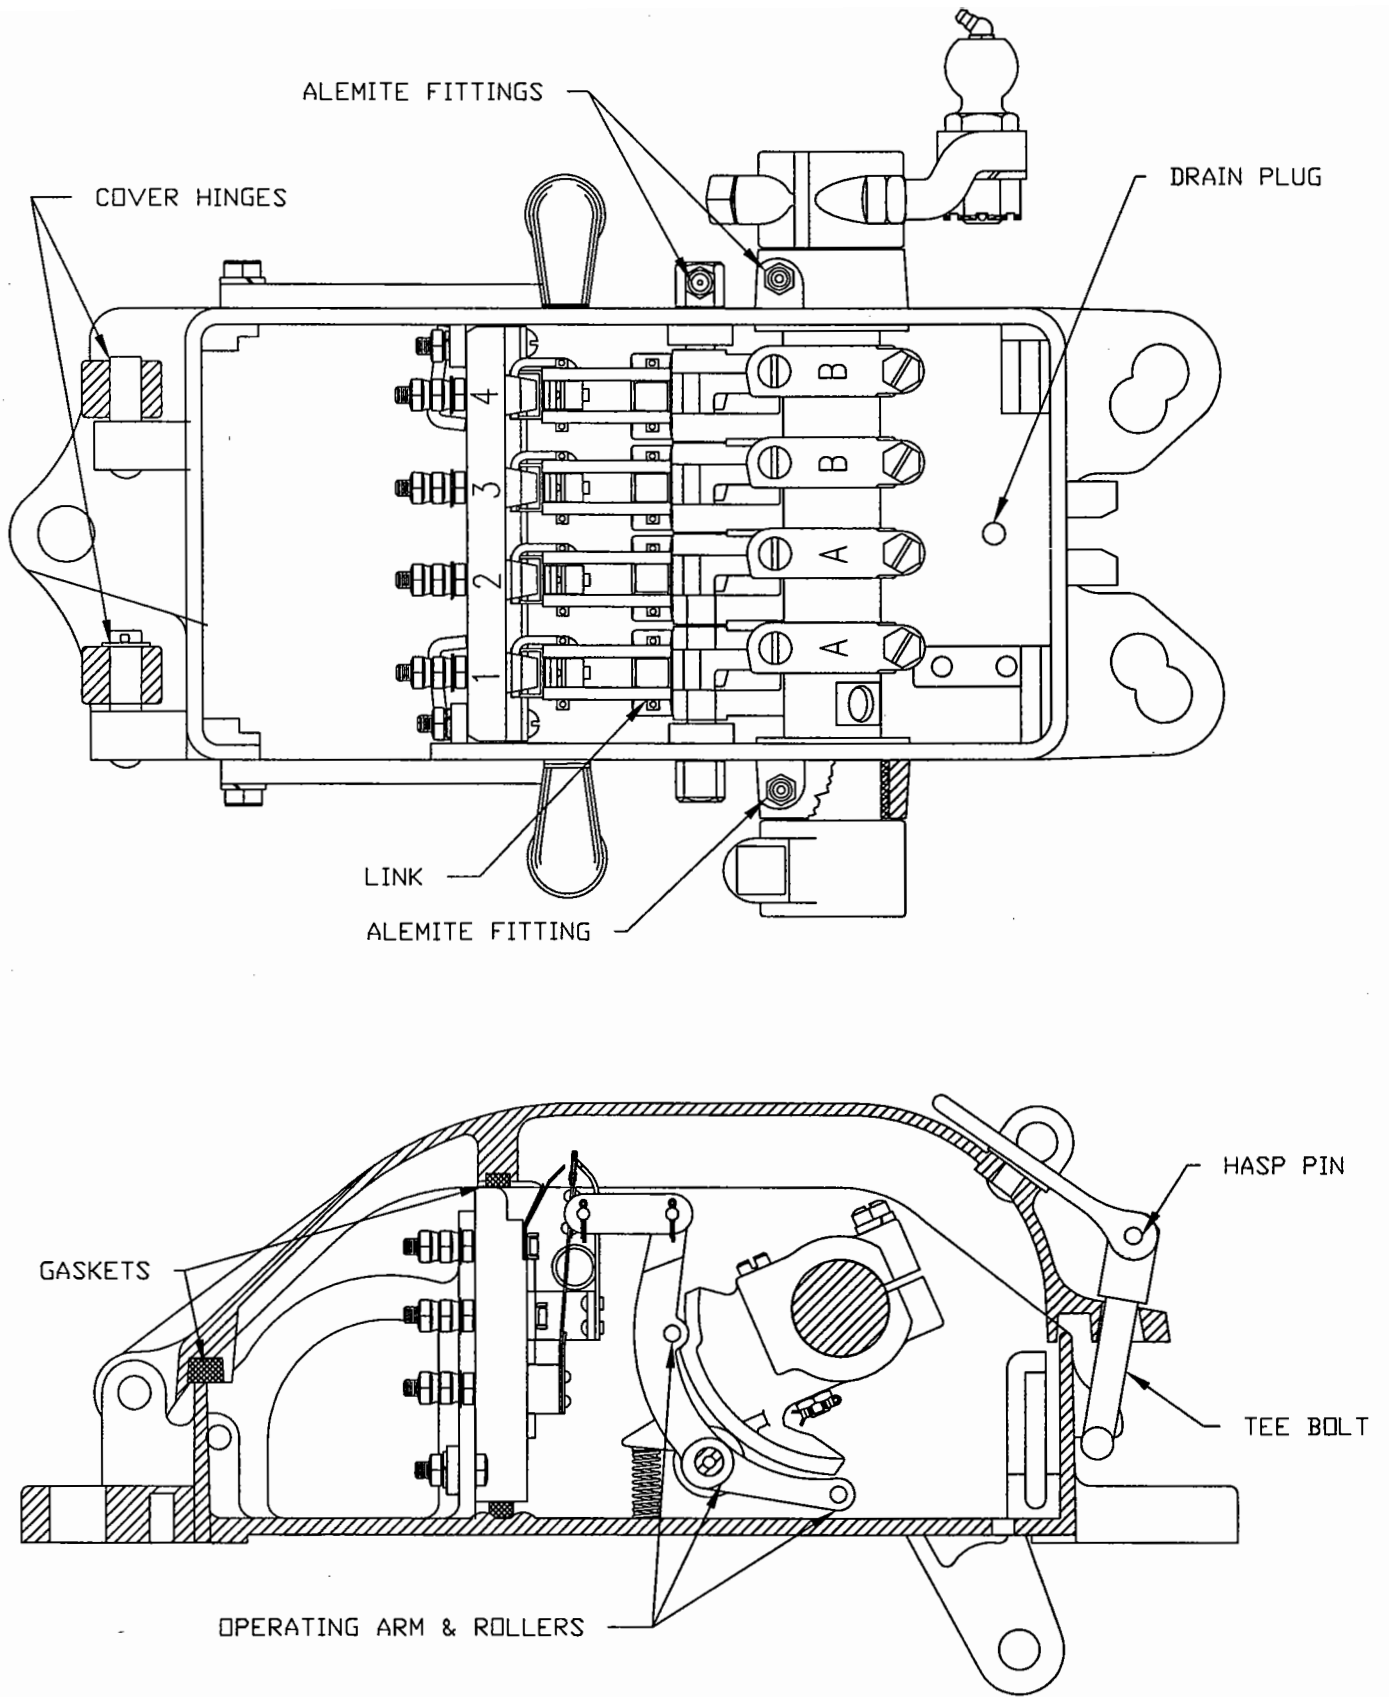

FIGURE 2-2
lubricated to ensure optimum operation. Figure 2-2 illustrates the 856 switch circuit controller lubrication points, and the following steps outline the lubrication procedures.
- A. Using a hand grease gun, apply grease, Part No. 857500-CCL or equivalent, to the alemite fittings for the camshaft bushings and rocker shaft shown in Figure 2-2.
- D. Check that there are no signs of moisture accumulation within the 856 switch circuit controller compartment. If moisture is present, check to see if the drain plug (Figure 2-2) is installed in the drain hole. If so, remove the drain plug to allow moisture to drain out of the compartment. The plug may be removed by grasping it with a pair of pliers and pulling it out of the drain hole. Replace plug by pushing it back into the drain hole.